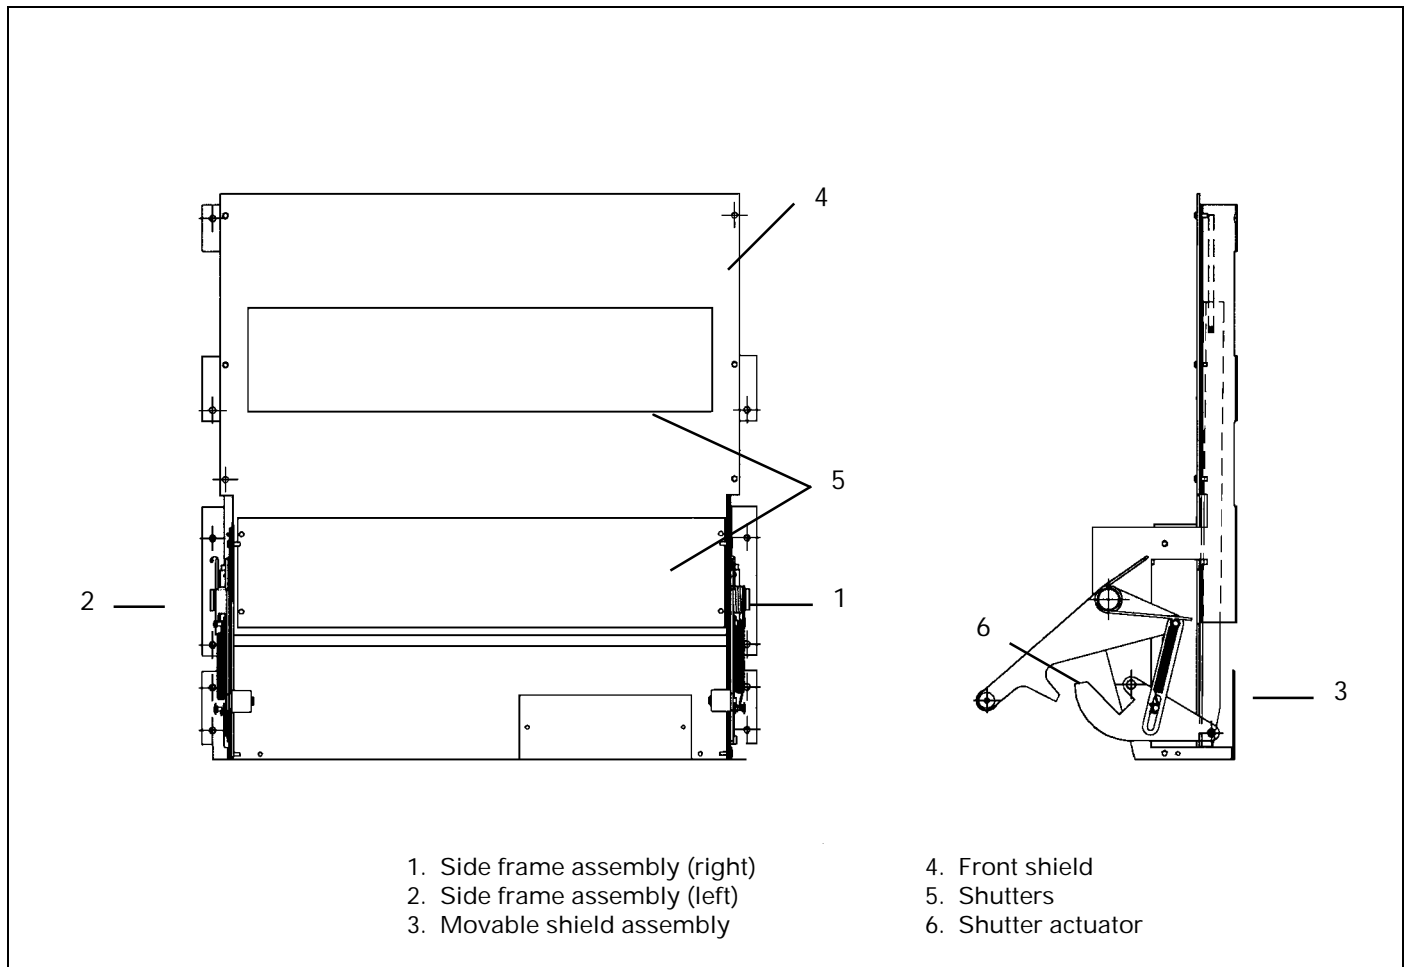

Fig. 7-10. Entellisys circuit breaker shutter unit (EG-32/40/50 breakers)
1. The shutter unit frame is mounted to the vertical stringers located at each side of the rear of the breaker compartment. See Fig. 7-10.
2. Take out 11 ¼-inch hex head screws from the frame. A socket wrench with a 3/8-inch driving head with an 8-inch extension will be needed. See Fig. 7-10.